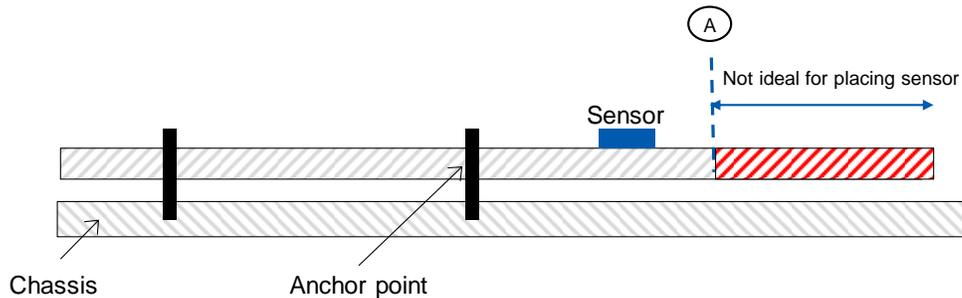
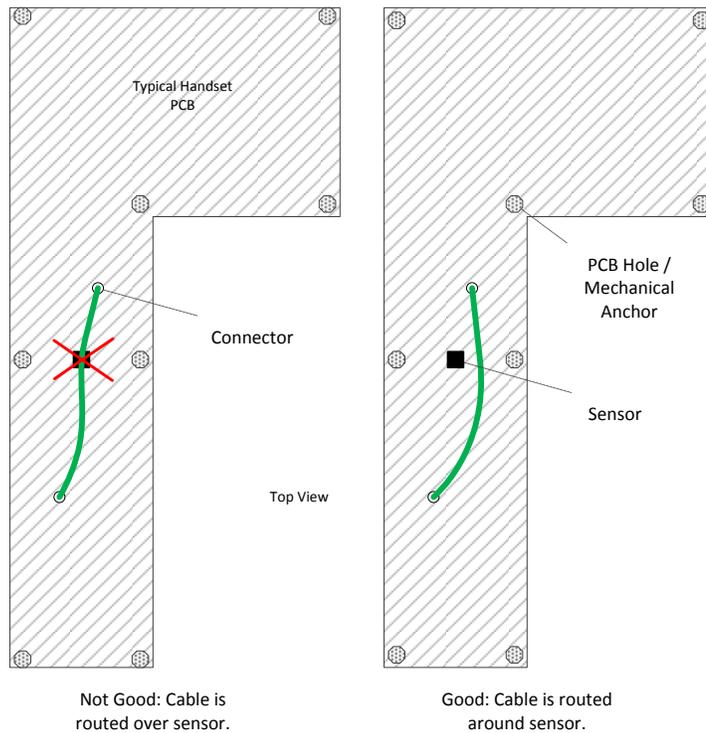

Figure 1 - Place Sensor in a Mechanically Stable Area of PCB
Figure 5 - Be Careful of Cable Routing
Recommendations (see Figure 1 through Figure 5):
- Place the sensor in a part of the PCB which is mechanically stable as shown in Figure 1. Keep distance from point A to reduce the diving board effect and any impacts on the sensor operation.
- Place the sensor away from mechanical connectors as shown in Figure 5.